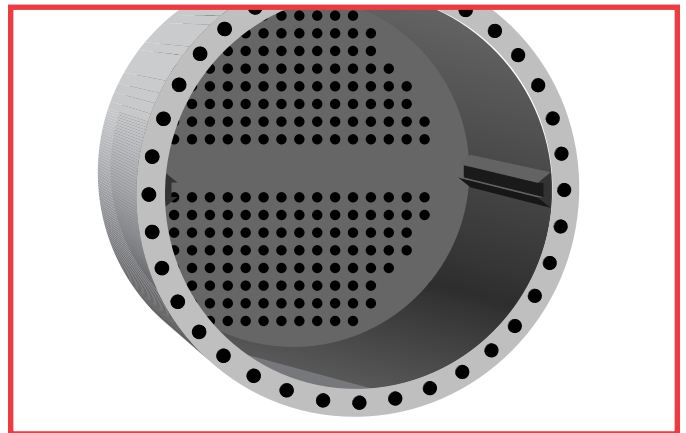

Figure 34. Apply two coats of epoxy to the tube sheet.
- 3. Apply Loctite® Brushable Ceramic** in two coats. After the first coat, wait 1-3 hours and recoat again. The two-coat system helps fill any voids missed after the first coat. (See figure 34)